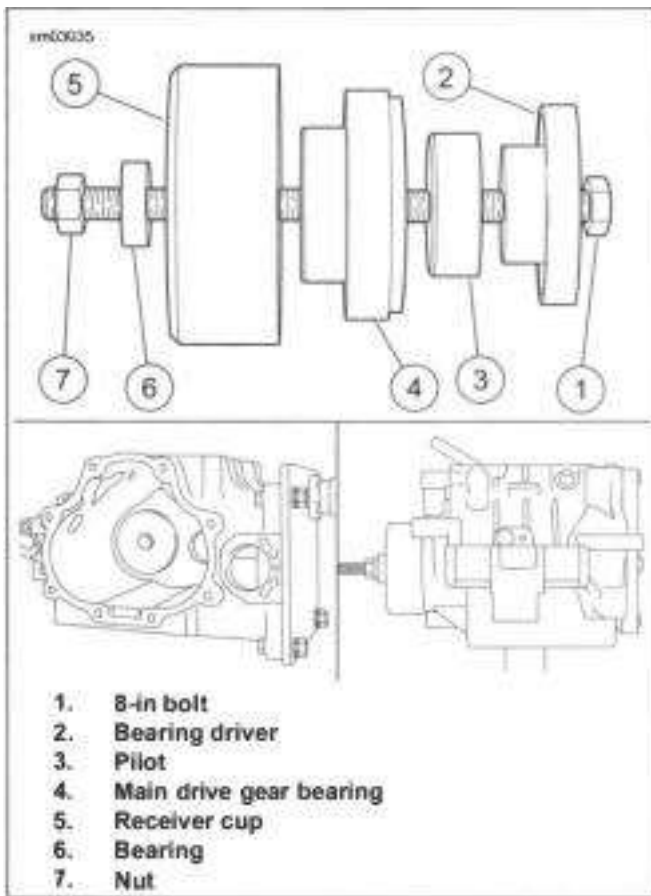

Figure 5-65. Removing Main Drive Gear Bearing
5. See Figure 5-65. Remove main drive gear bearing from transmission case using MAIN DRIVE GEAR REMOVER AND INSTALLER SET (PART NUMBER: HD-35316-D).